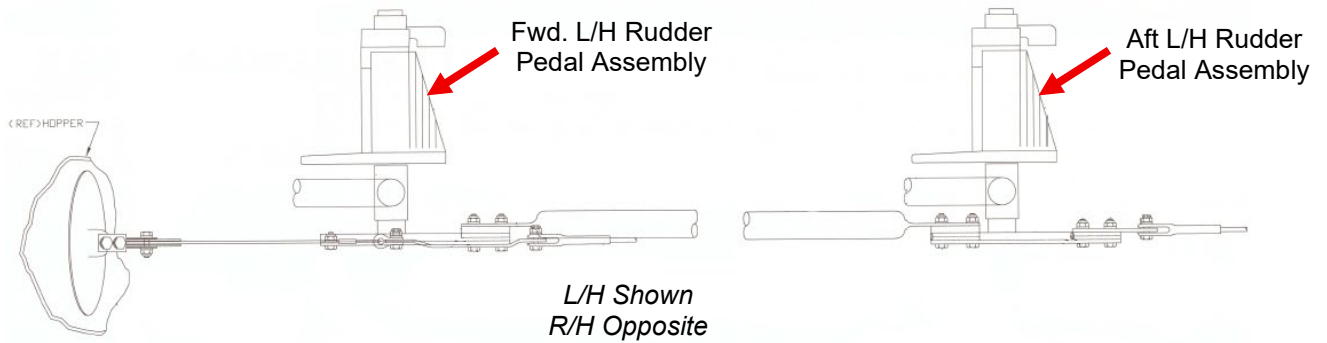

Figure 1
2. Install L/H and R/H rudder assemblies included in kit (reference Figure 1).